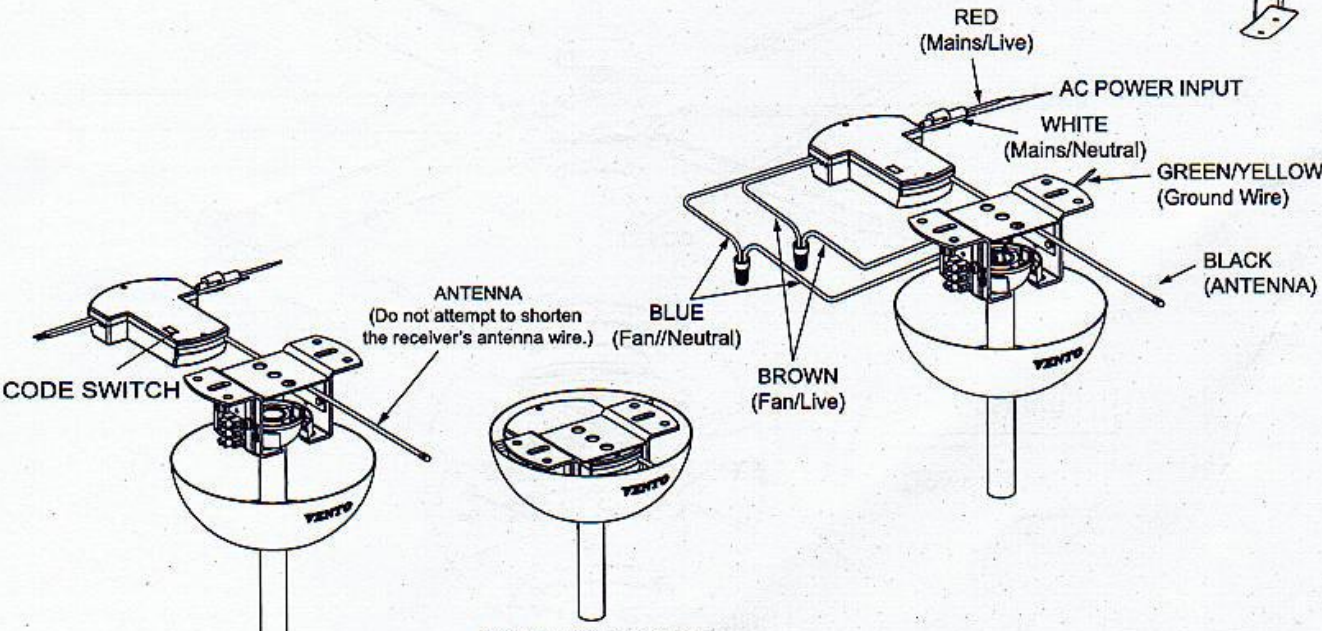

Fig 2 COMPLETE DIAGRAM
5. After connecting the wires, push up the canopy till it reaches the ceiling then install the receiver by sliding into opening in the mounting bracket. Tighten the canopy screw. As shown in Fig.2